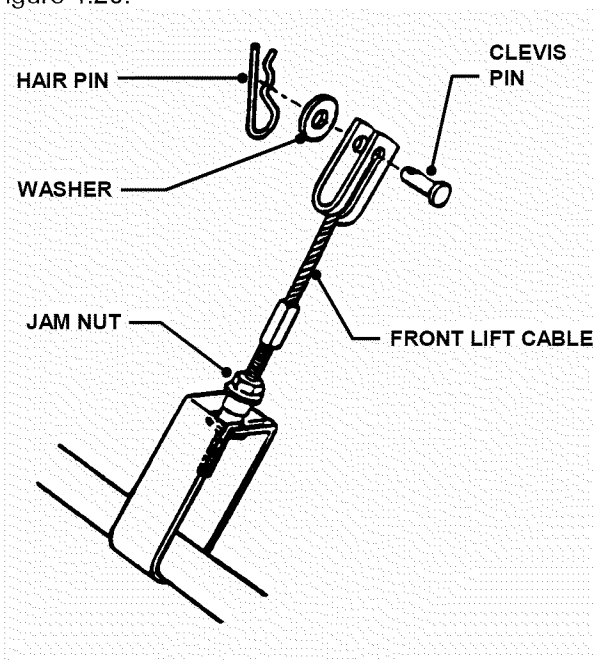

FIGURE 4.19
4. Remove hair pin and washer securing front lift cable to front lift arm. See Figure 4.19.